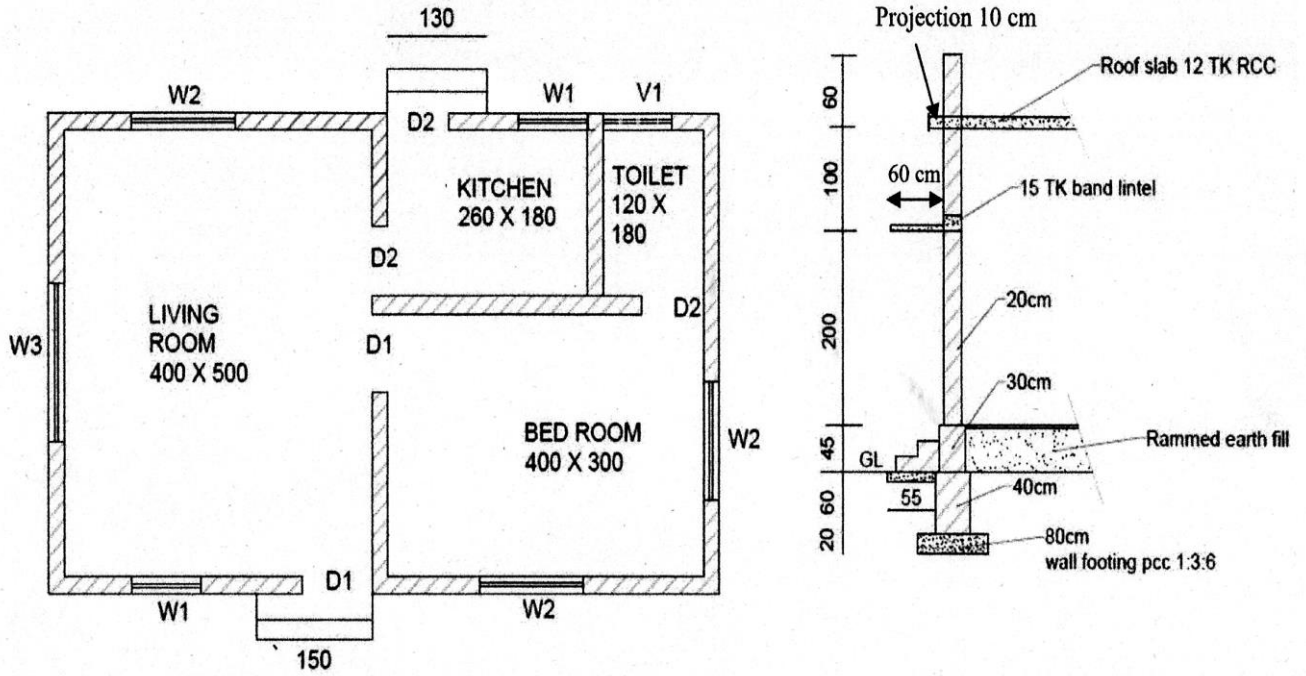

Figure 1
2. Work out the quantity of earth work excavation for the building shown in Figure 1.
IV. From the attached plan and the detail of wall section (**Figure 1**), estimate the quantities of the following items of work.